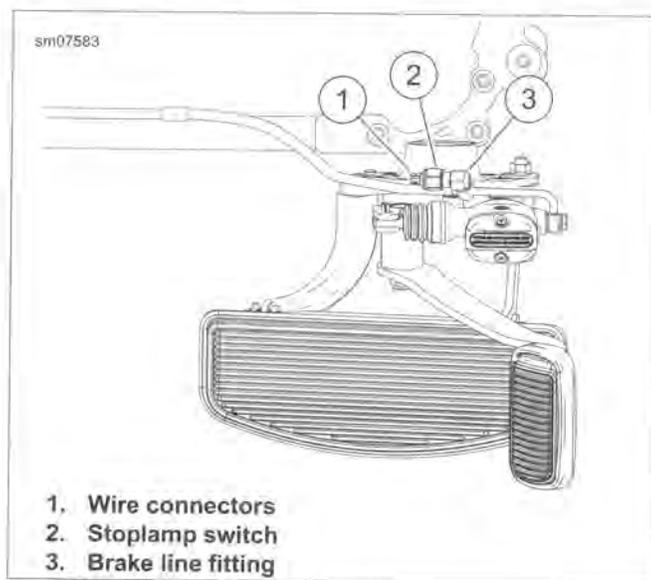

Figure 7-107. Rear Stop Lamp Switch
32. See Figure 7-107. Disconnect rear stop lamp switch connectors:
- d. Remove stop lamp switch connectors (1).
23. See Figure 7-107. Connect brake lamp switch connectors:
- d. Install stop lamp switch connectors (1).
34. See Figure 7-107. Install connectors to induction module:
- a. Install TMAP sensor connector (3). Engage yellow lock.
- b. Install TCA connector (2). Install **new** anchored cable strap in hole at front right side of induction module.